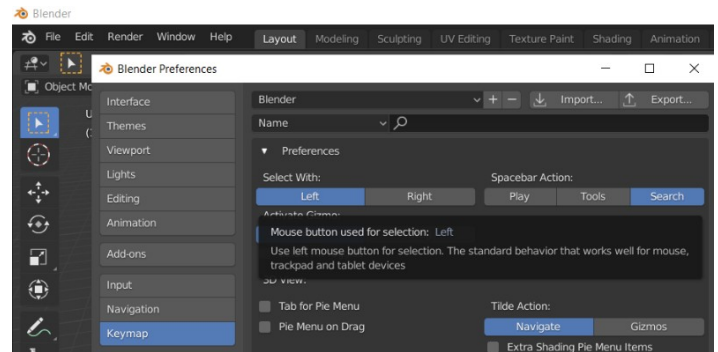

Figure 14
- 2) Go to the Edit menu, select **Preferences**, and from the **Keymap** tab choose **Select With: Left** (Fig. 14).